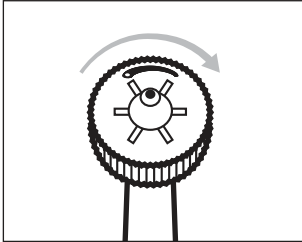

Fig. 6
- ◆ Turn the nozzle control ❶ clockwise with your fingers to obtain multiple jets for massaging the gums (see Fig. 6 and 7).